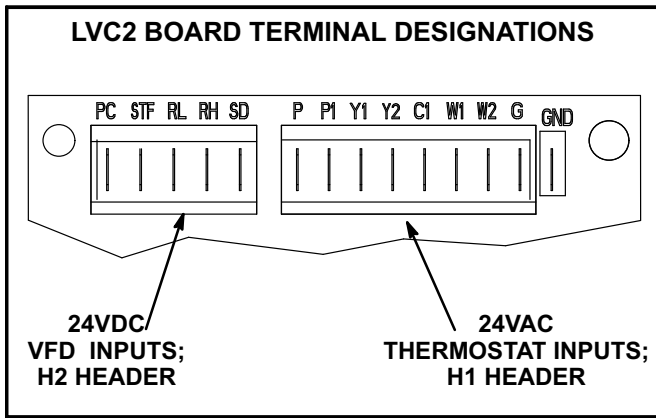

FIGURE 13
- 3- Check for 24VAC signal at the thermostat blower input (G to GND terminal). See figure 13.